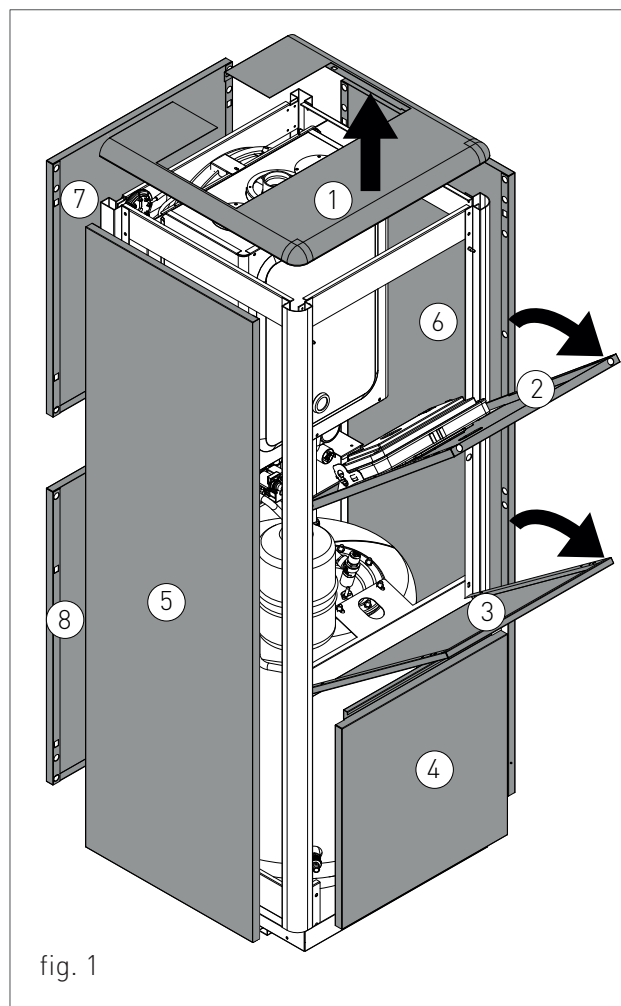

fig. 1
- › remove the fixing screws placed on back side of the cover '1' (fig. 1) and remove the cover by pulling it vertically.
- › grab panel '2' (fig. 1) from the upper side and rotate it downwards. To remove the panel completely, first dismantle the electronic PCB front panel from the support brackets. Then remove the fixing screws from the inner part of the panel.
- › Grab panel '3' (fig. 1) from the upper side and rotate it downwards. To remove the panel, unscrew the fixing screws from the inner part of the panel.
- › remove the panels '4-5-6-7-8' (fig. 1), fixed under pressure, by pulling them outwards.
- › Follow the procedure described at chapter 'ACCESSING THE BOILER' and rotate panel '2' (fig 1);